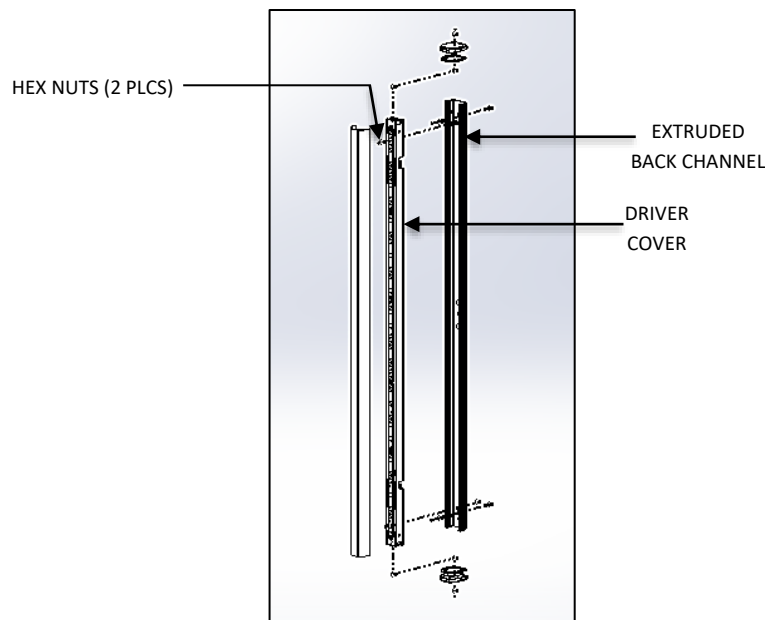

FIG.15 – DRIVER COVER ASSEMBLY
9. Assemble the DRIVE COVER to the EXTRUDED BACK CHANNEL with the TWO #8-32 HEX NUTS as shown in the FIG.15.